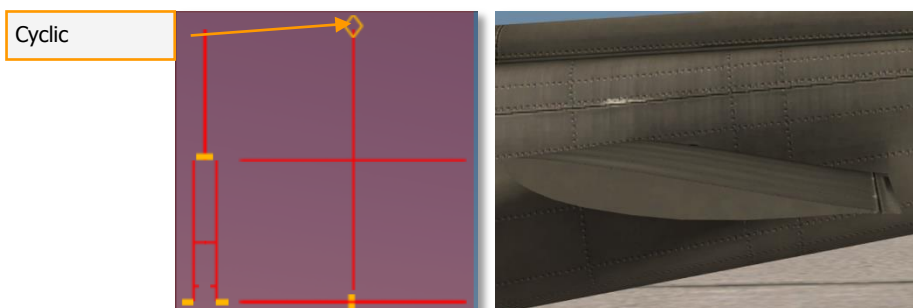
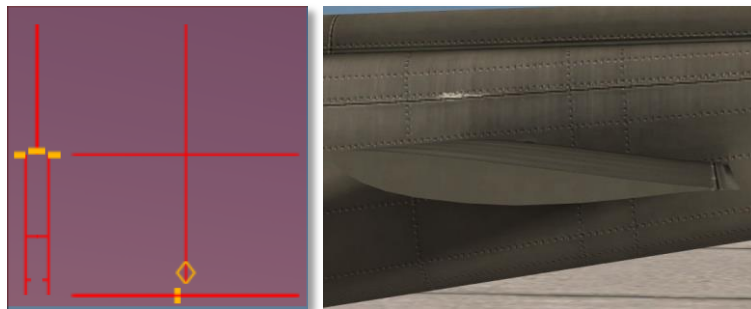

Figure 4.2. Position of the synchronized elevator when cyclic is fully forward (angle +5.40 degrees regarding the construction line of helicopter).
Figure 4.4. Position of the synchronized elevator when cyclic is fully back (angle +1.28 degrees).
A. SYNCHRONIZED ELEVATOR. The synchronized elevator is located on the tail boom. It is connected by control tubes and mechanical linkage to the fore-and-aft cyclic system. Fore-and-aft movement of the cyclic control stick will produce a change in the synchronized elevator attitude. This improves controllability within the center of gravity (cg) range (Figure 4.2..Figure 4.4).